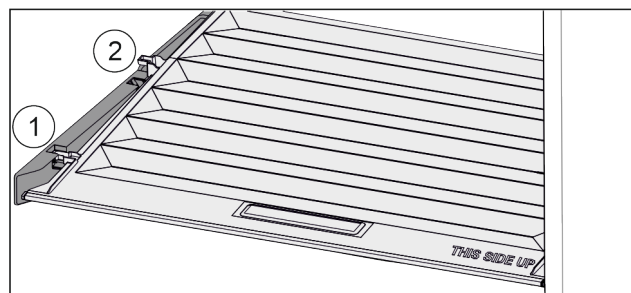

Fig. 68
- Pull the lid up at the front in the retaining parts to the opening Fig. 68 (1).
- Lift from the back and pull it up and out Fig. 68 (2).